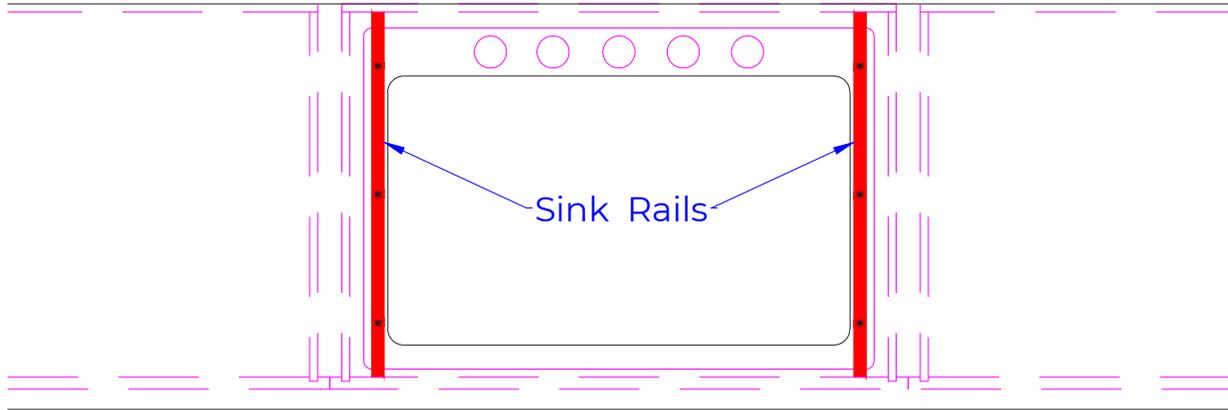

FIGURE 8
6. Sink support cradles or sink rails attached to perimeter walls or cabinets are also approved. See Figure 8.